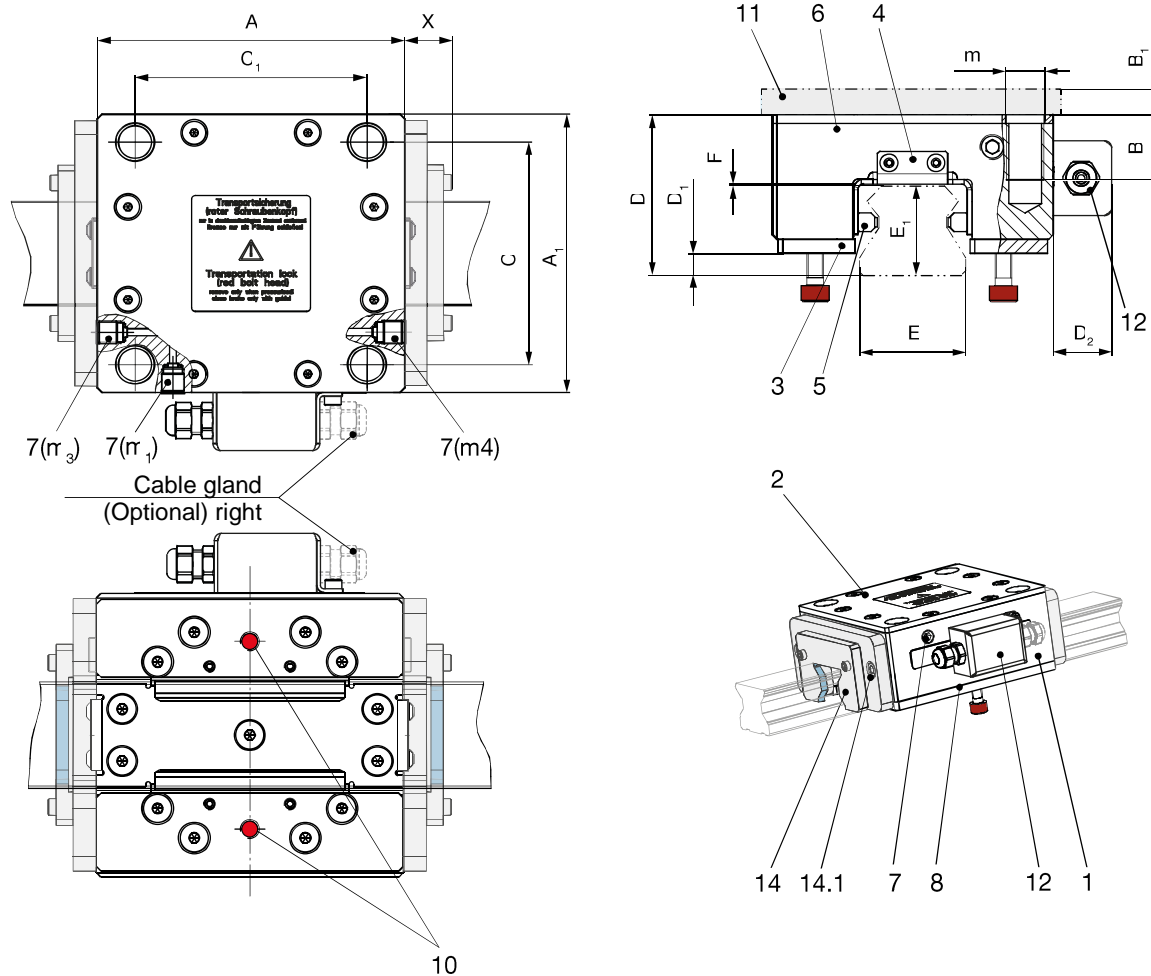

Fig. 2
- ☐ By de-pressurizing release the **ROBA®-guidestop**, the cup spring has an effect on the clamping element of the brake. The profiled rail is clamped (Fig. 2).